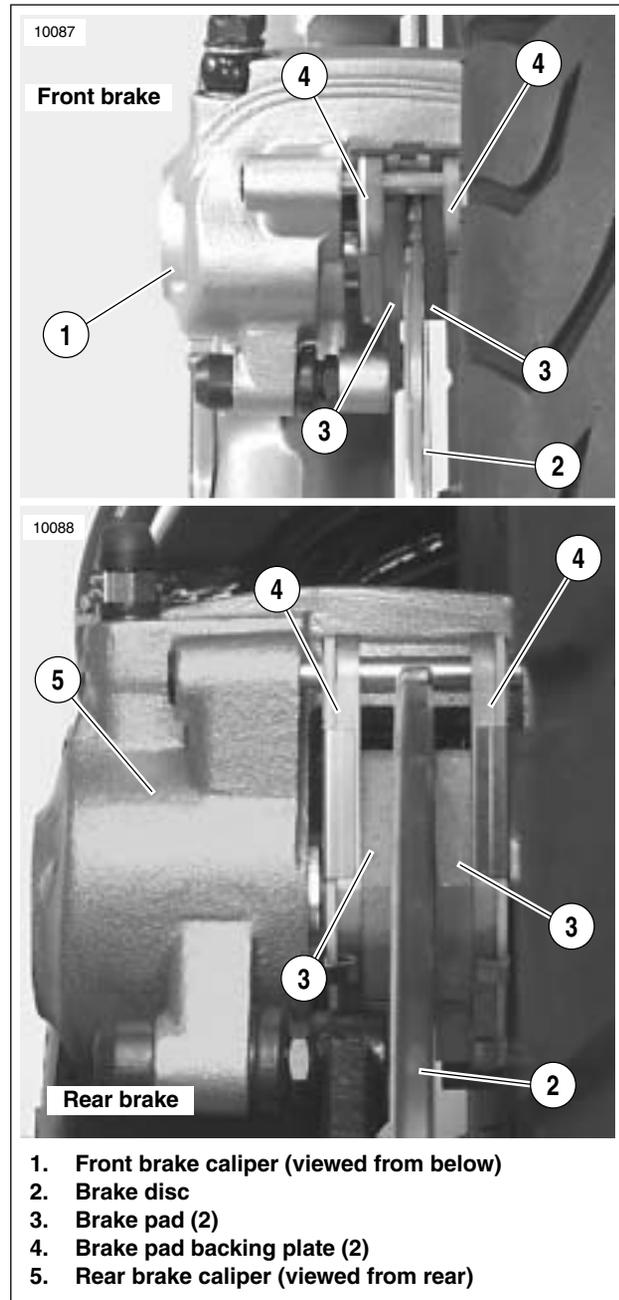

Figure 1-21. Brake Pad Inspection
See Figure 1-21. Replace brake pads (3) if brake pad friction material on either the front or rear caliper is worn to 0.04 in. (1.02 mm) or less above the backing plate (4). Always replace both pads in a caliper as a set. See BRAKE PAD REPLACEMENT on the next page.